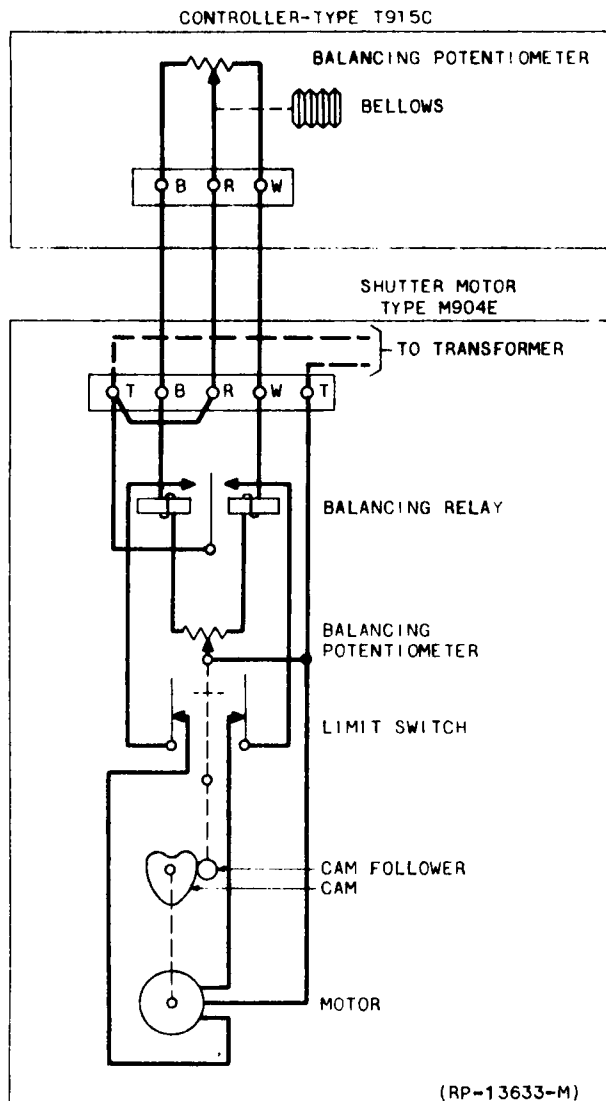

FIG. 3 SCHEMATIC - T915C TYPE CONTROLLER AND M904E TYPE SHUTTER MOTOR
1.23 In operation, a change in the temperature of the liquid, in which the thermostatic bulb is immersed, causes pressure changes in the bulb which are transmitted thru the tube to the bellows in the T915C type controller. See Figure 3. Movement of the bellows causes the balancing potentiometer in the controller to move which results in an unbalance on the balancing relay in the M904E type shutter motor. This condition causes the relay to close and operate the shutter motor in a direction to move the motor balancing potentiometer, thru the cam mechanism, to a position which will re-establish the balance on the balancing relay. When relay is rebalanced, the closed contact opens and stops the shutter motor. Limit switches stop the motor when shutters are either fully open or closed.